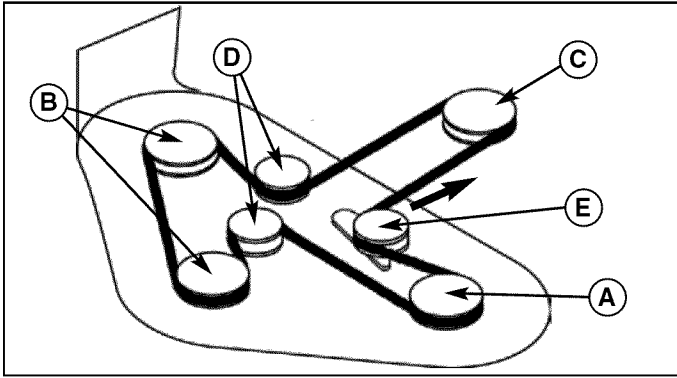

Figure 34. Mower Belt Routing - 44" & 50" Decks
4. Pull back firmly on the belt tensioning idler (E, Figure 34) in the direction indicated, and remove the belt from the left arbor pulley (A).
6. Reversing steps 4 & 5, install the new belt, following the routing in Figure 34. Be sure to replace the belt guards.